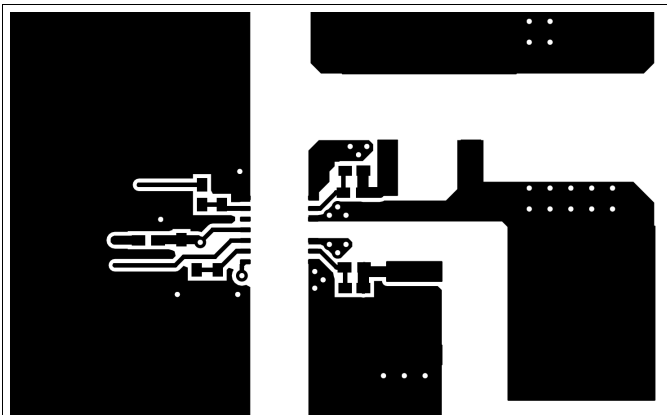
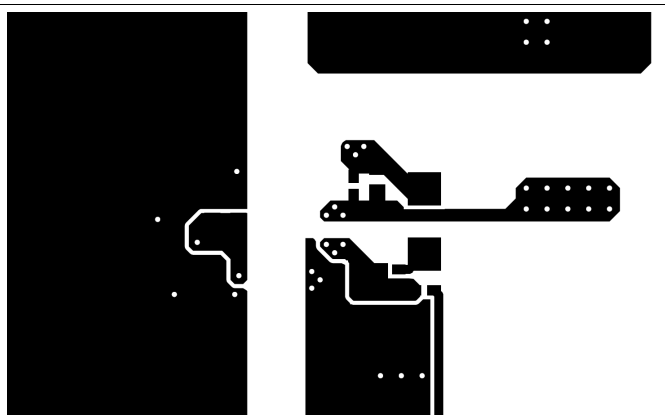

图 42. Top Layer Traces and Copper
图 43. Bottom Layer Traces and Copper
- Increasing the PCB copper connecting to VDDA, VDDB, VSSA and VSSB pins is recommended, with priority on maximizing the connection to VSSA and VSSB (see Figure 42 and Figure 43). However, high voltage PCB considerations mentioned above must be maintained.